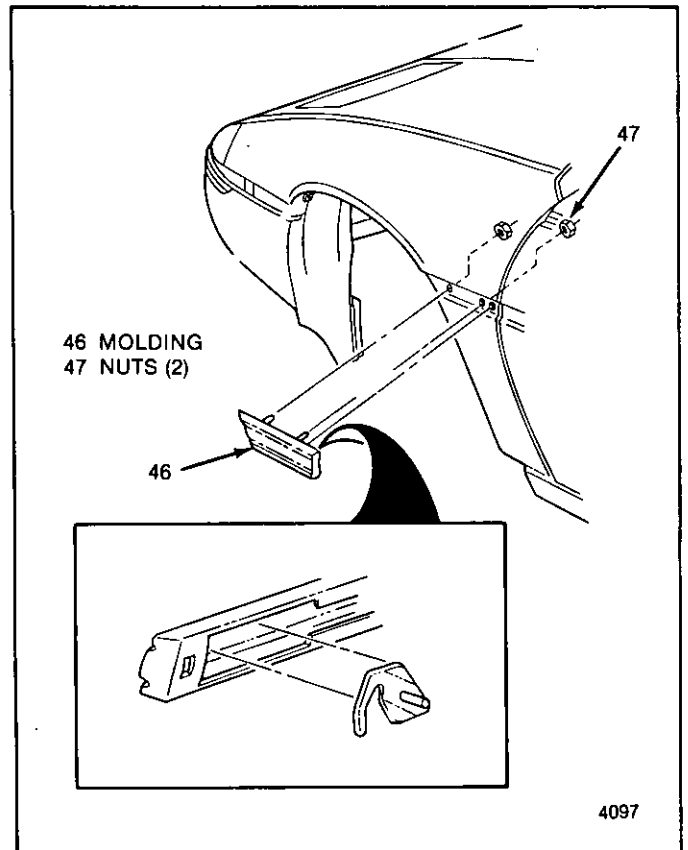

Fig. 11-Front Fender Molding
**Remove or Disconnect (Figure 11)**
2. Two nuts (47)
3. Molding (46)
**Install or Connect (Figure 11)**
1. Molding (46)